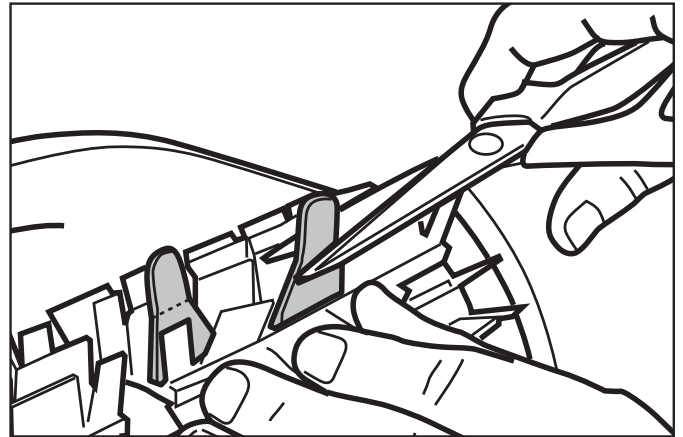

Figure 20. Cut Tabs
5. Use a pair of scissors to cut the tabs 3/4 inch from the heel so that they are no higher than the cleaning blade (Figure 20).